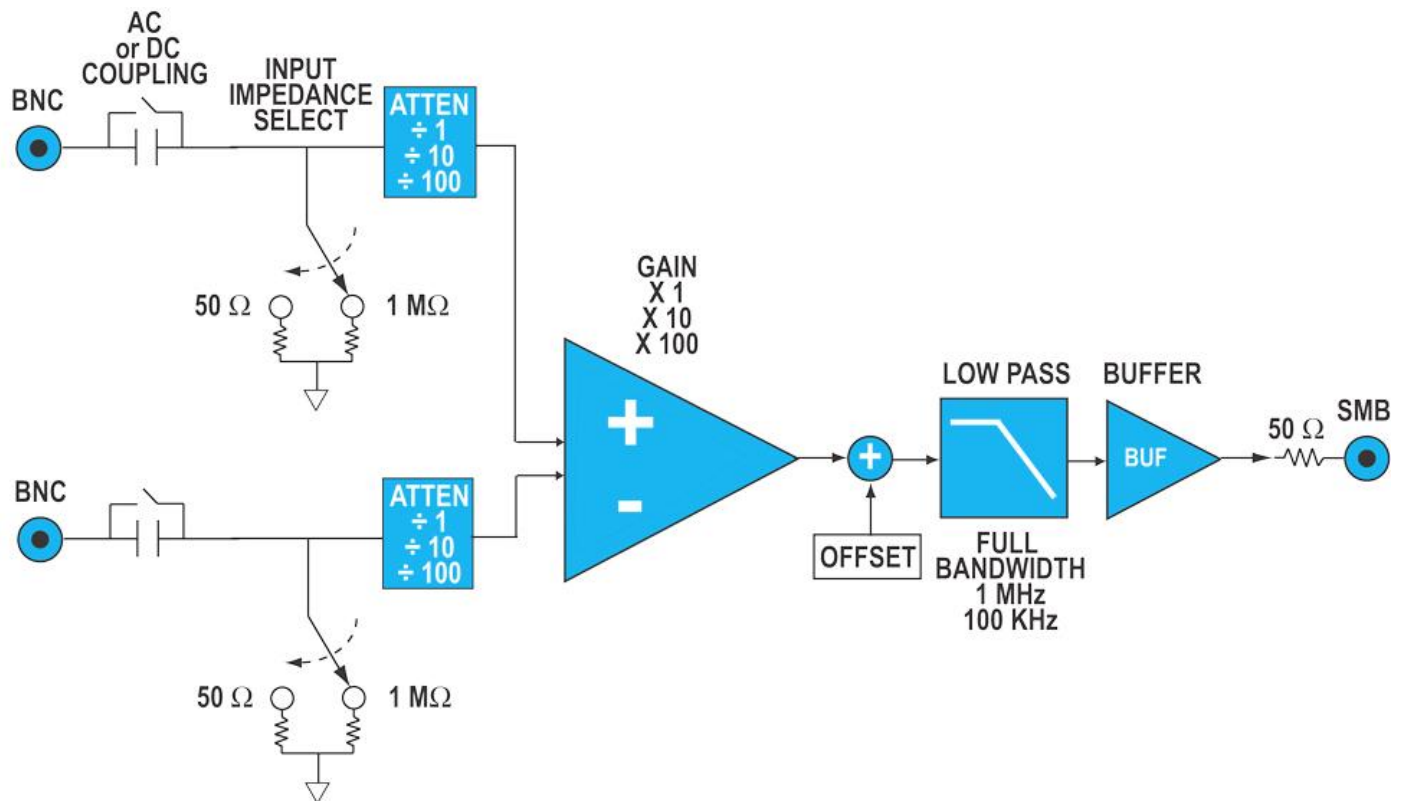

Figure 1.1: Block Diagram of the 4040A
- Figure 1.1: Block Diagram of the 4040A.....1-1
The 4040A is a single channel, differential input amplifier capable of high gain and equally high attenuation values with a bandwidth from DC-50 MHz. The Model 4040A is capable of operating with gains of x1, x10, and x100 in conjunction with attenuation by factors of: ÷1, ÷10, and ÷100. These levels of gain and attenuation may be used in combination to condition a differential input signal so that it matches the needed input of a low-level device such as a digitizer or oscilloscope. There is a more in depth explanation contained in the specification section. In addition, the 4040A provides programmable offset, anti-aliasing filters, input impedance and input coupling. Figure 1.1 is a block diagram of the 4040A. The 4040A has been specifically designed to take two signals and make a valid differential measurement by inverting one of the signals and adding the difference, this allows the user to measure signals not referenced to local ground without compromising safety.